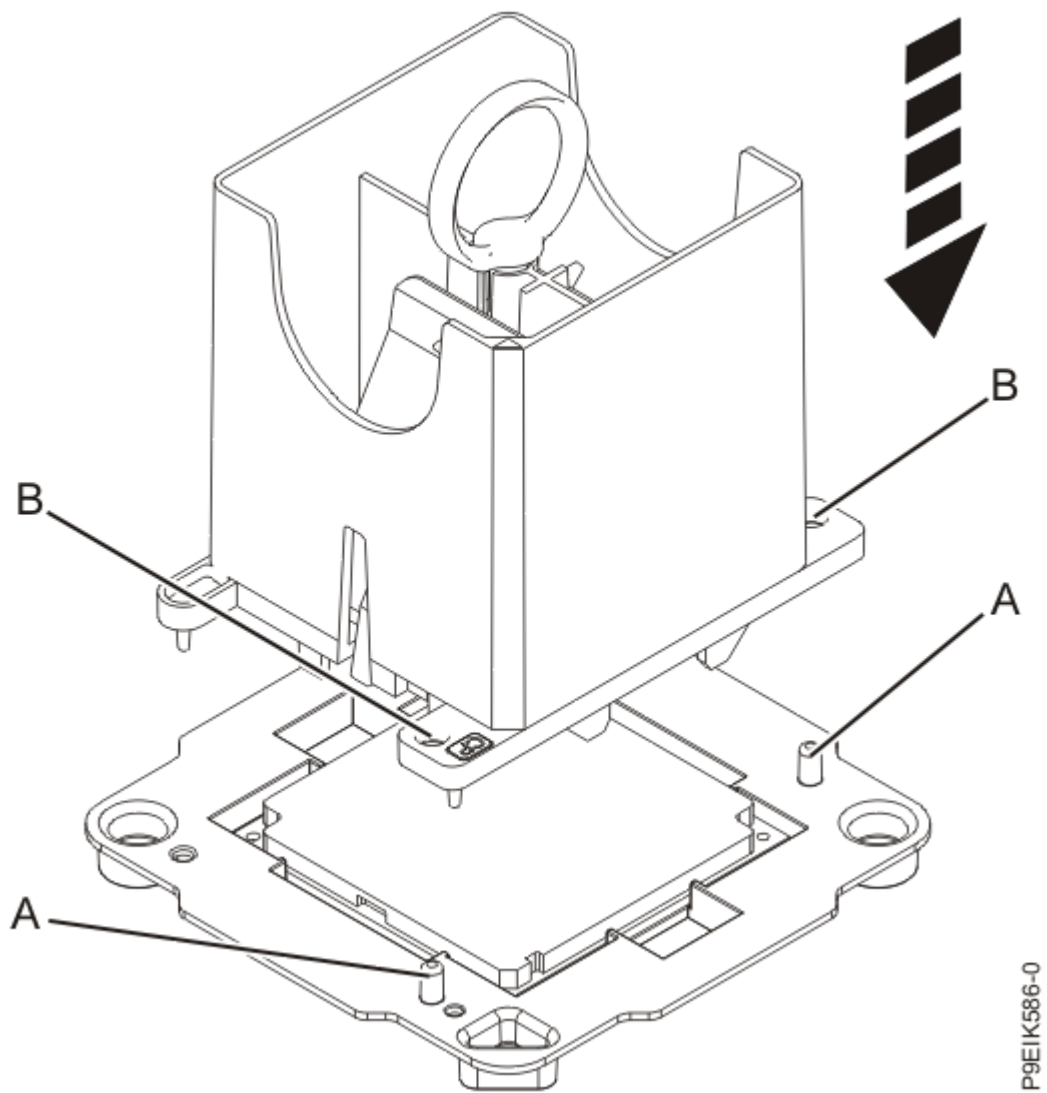

Figure 222: Lowering the removal tool onto the system processor module
- b) Lower the tool over the system processor module as shown in Figure 222 on page 269. Ensure that the beveled edge on the tool aligns with the beveled edge of the system processor module. Ensure that the two guide pins **(A)** are inserted into the alignment holes **(B)** on each side of the tool.